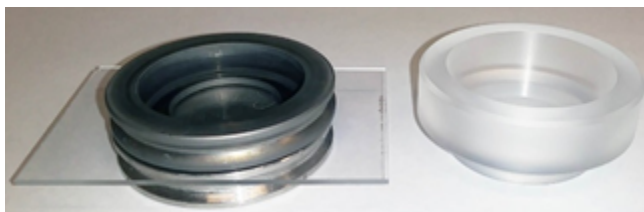

Figure 17. Ring upside down on glass. Funnel piece next to unit.
- Take the ring, flip it upside down and put it on the slide (*Figure 17*). Now the powder will fall on a smooth flat surface that will be easy to flip over.